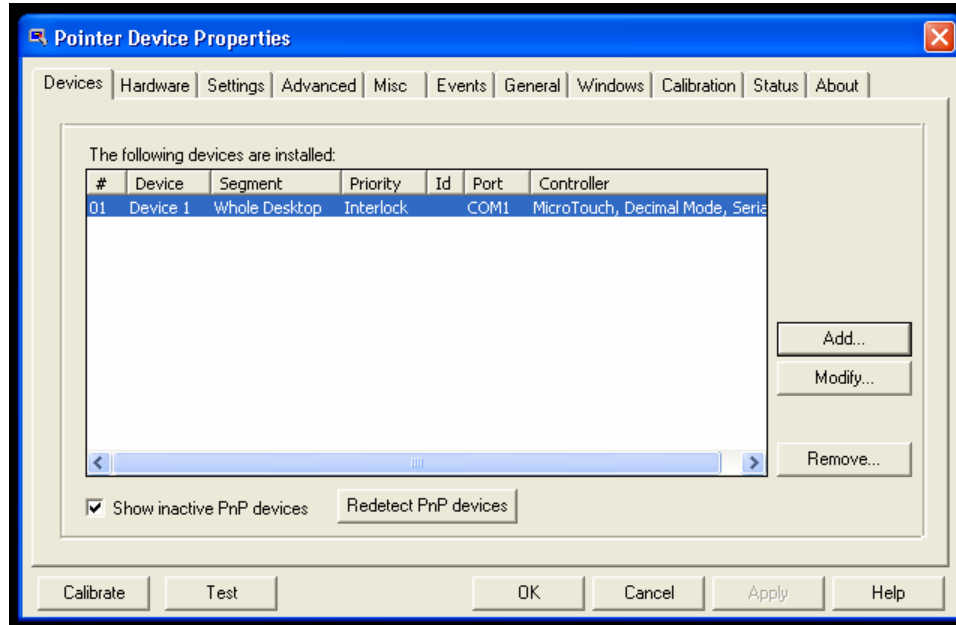

Figure 2
- 2.) The **Device Pointer Properties** window will appear. (Figure 2)